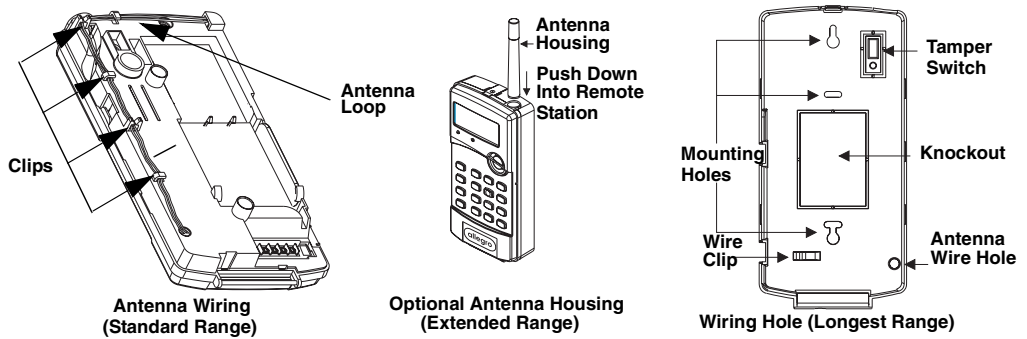

Figure 2. Antenna configurations
- a. Push the antenna housing down into the top right hole of the remote station until it snaps into place (see Figure 2).
- a. When you mark the back mounting plate's two mounting holes, also mark where the antenna hole is (see Figure 2 for antenna wire hole location).
- c. Remove the antenna loop (see Figure 2) from the remote station cabinet clips and feed through the antenna hole and down into the wall.